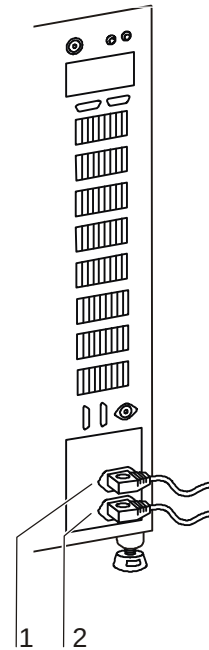

Fig. 23
1. Before connecting the device to the power supply, check to see if the voltage rating of the sockets corresponds with the specifications on the nameplate of the device. If the ratings given for voltage (V) and current (A) are not correct, the device must not be connected to the power supply.
2. **Fig. 23:** Connect UPS: Connect grounding plug [1] of UPS cable to a properly grounded and fused socket or to a separate UPS system.